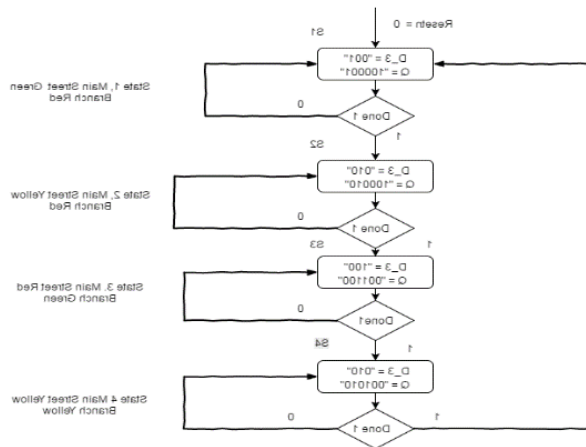

Figure 3
C. The counter structure setup as figure3